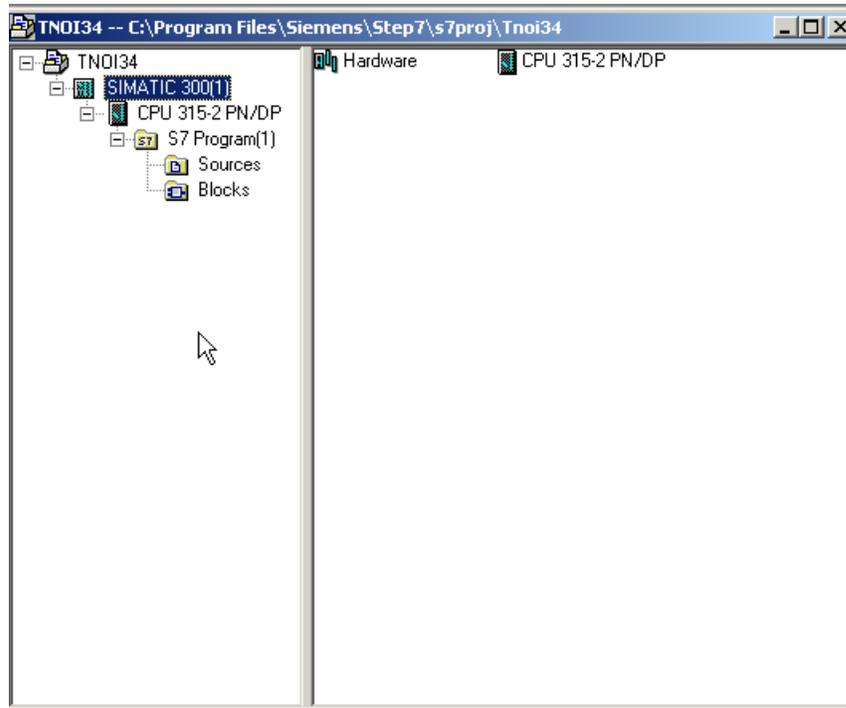

Figure 1.
1. Start SIMATIC Manager and follow the wizard to create a new project. In this example, a CPU315-2 PN/DP is used. Once created, the project browser should look similar to Figure 1.